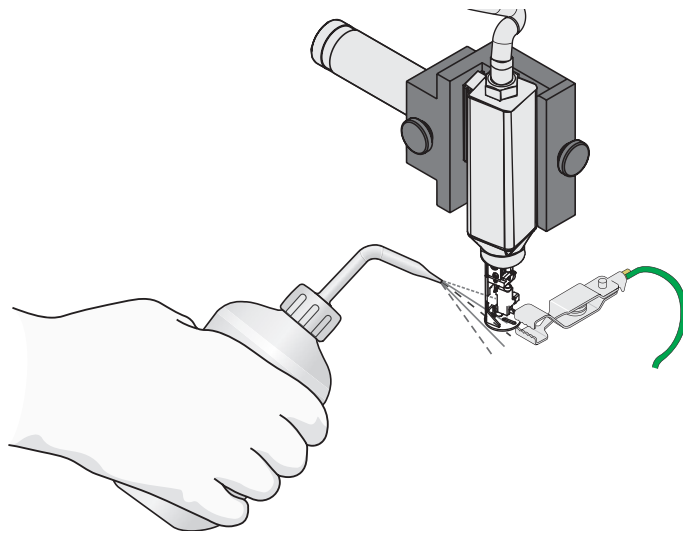

Figure 8-4: Cleaning the Printhead
- 3 Ensure that the printhead is pointing down to the grounded service tray. Flush away the contaminants using the recommended Videojet cleaning solution or make-up fluid (Figure 8-4).